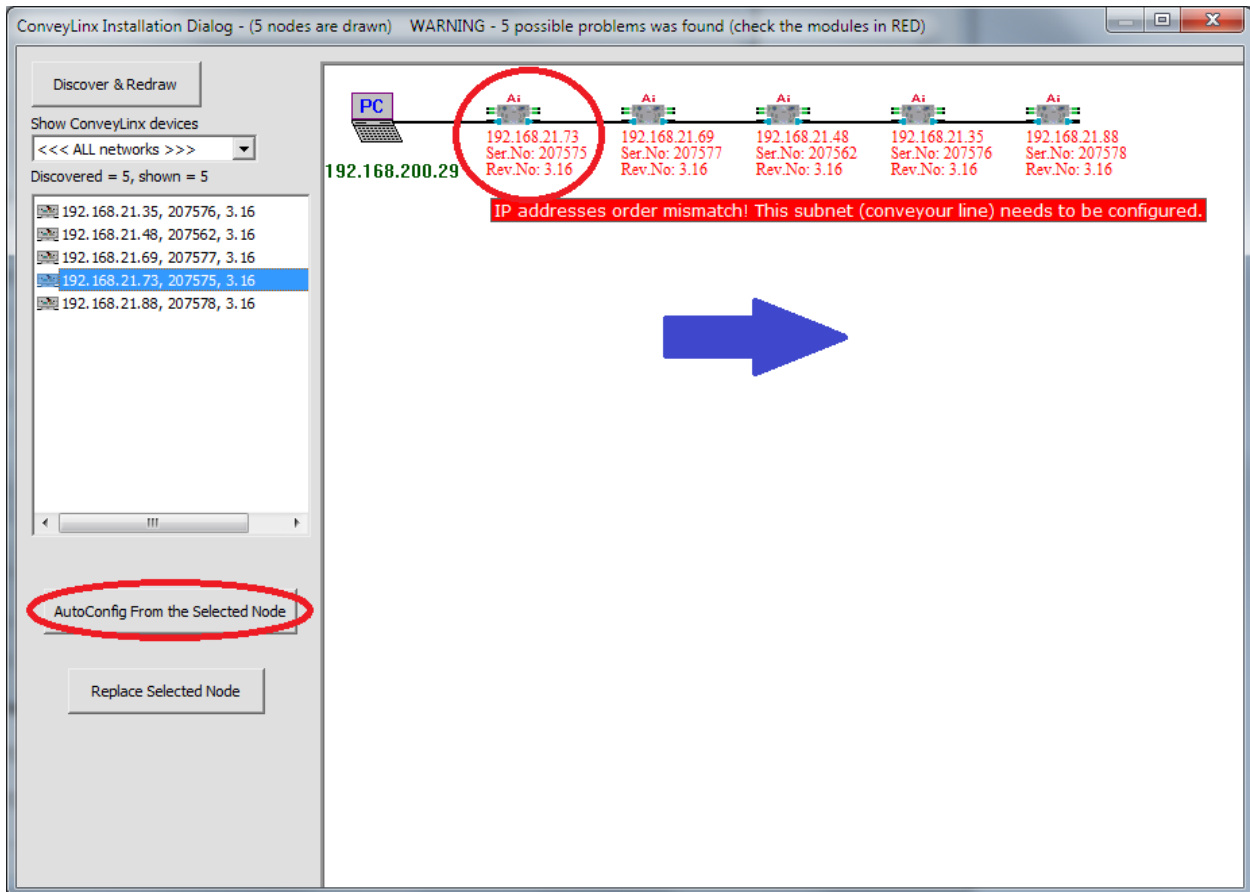

FIGURE 20 – TOPOLOGY VIEW AND INITIATING AUTO-CONFIGURE FROM THE SELECTED NODE
3. When the topology is drawn, select the ConveyLinX Ai module from which you want to configure the line and click "Auto-Configure from selected node" as shown in Figure 20.